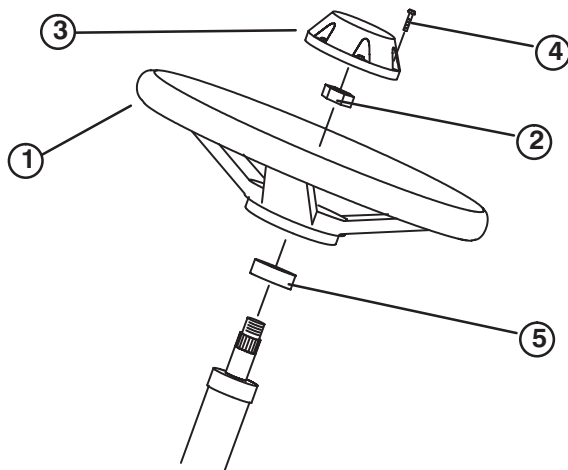

Figure 2
2. Remove steering wheel from seat plate. Remove screw and cap from steering wheel (Fig. 2).
3. Remove jam nut from steering shaft. Make sure foam seal is on steering shaft (Fig. 2). Slide steering wheel onto steering shaft.